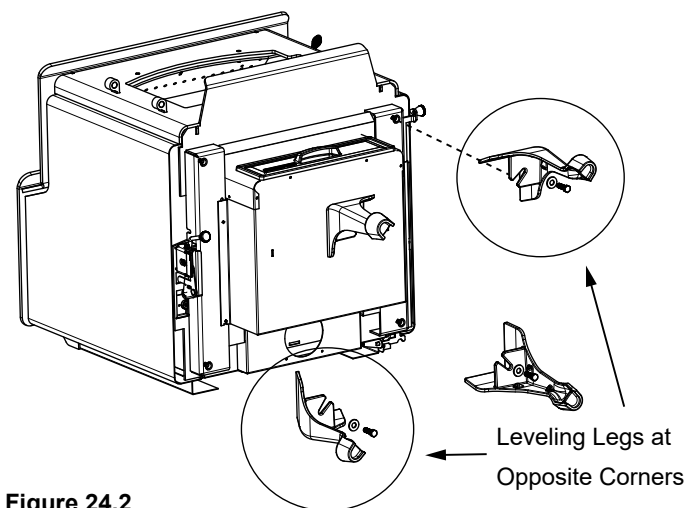

Figure 24.2
4. Install legs onto leg brackets making sure the legs are up against the bracket and secure with bolts and washers using a 3/8 open end wrench (**Figure 24.2**).
5. Install leveling bolts into 2 legs; these leveling legs should be in opposite corners (**Figure 24.2**).